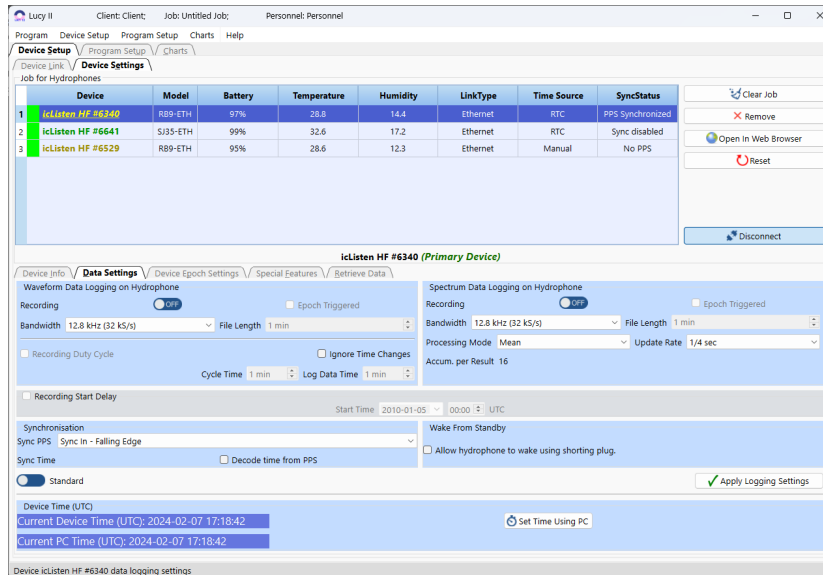

Figure 1-5 Data Settings
**Data Settings** panel displays the current configuration of device and allows this configuration to be updated (Figure 1-5).